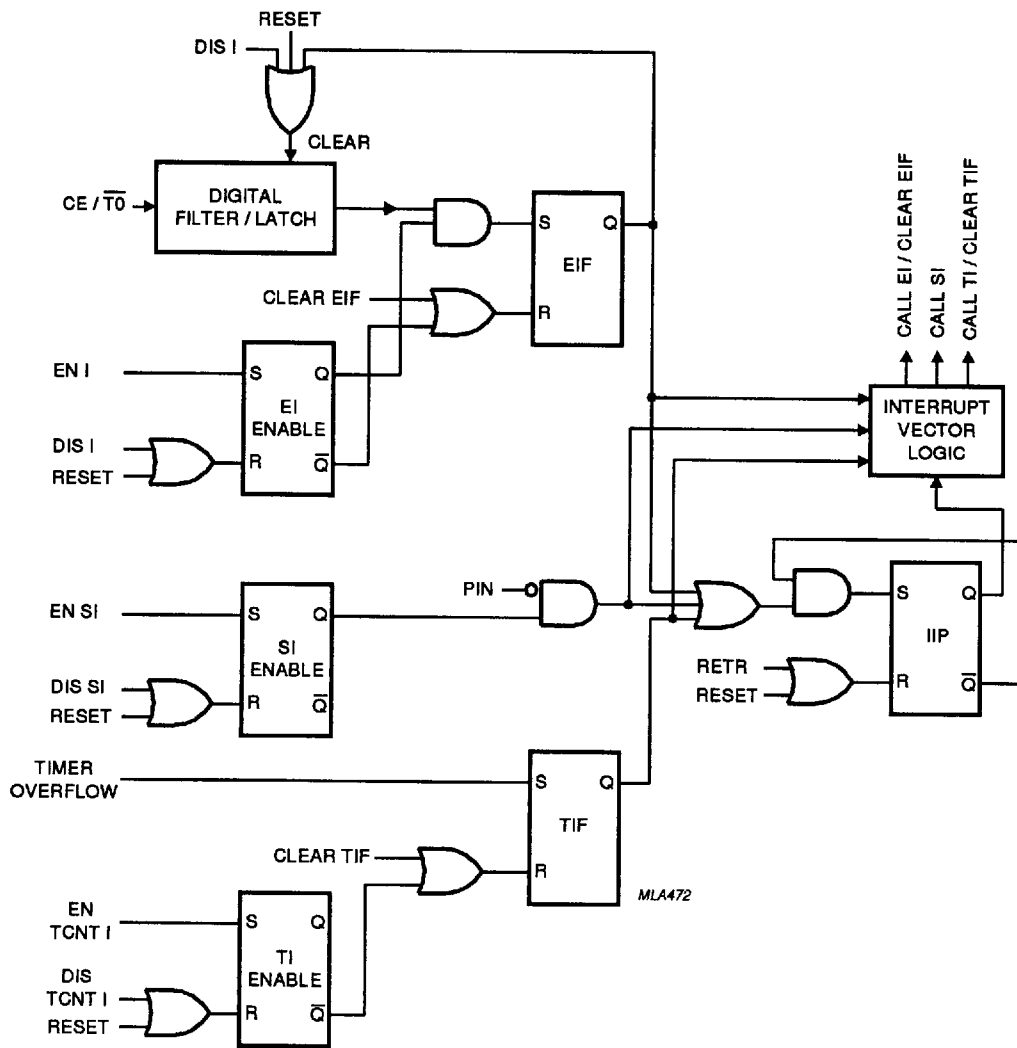

Fig.7 Simplified interrupt logic schematic (the R input overrules the S input for all flags).
An interrupt request is only sensed if the corresponding enable flag is set (see Fig.7). When the request is honoured, the contents of the Program Counter and bits 4, 6 and 7 of the Program Status Word are saved on the Program Counter stack. The Program Counter is loaded with the appropriate interrupt vector, thereby indicating the beginning of the interrupt routine. Since the Accumulator is not automatically saved, it must be saved and restored by user software. The interrupt routine must be terminated by the RETR (return and restore) instruction. At least one instruction of the main program will then be executed before another interrupt routine is entered.
- Subroutines and nested subroutines called from the interrupt routine must all end with RET since RETR clears the Interrupt In Progress flag (IIP), as a side-effect (see Figs 7 and 8). Further pending interrupts would then interfere with the interrupt routine in progress.
A LOW-to-HIGH transition on the $\overline{CE/T0}$ pin is latched in the digital filter/latch if the HIGH state exceeds 7 clock periods after a LOW state of more than 4 clock periods. If the external interrupt is enabled the External Interrupt Flag (EIF) is also asserted, thus constituting a valid external interrupt request. As soon as the IIP is clear, indicating that no interrupt routine is in progress, the external interrupt is invoked by a forced CALL to location 3. The EIF is simultaneously cleared (see Figs 7 and 8). The interrupt routine may acknowledge the interrupt via port lines. Execution of a DIS I (disable external interrupt) instruction cancels a stored interrupt request by clearing both the digital filter/latch and the EIF.
If the timer/event counter interrupt is enabled, a timer/event counter 1 overflow sets the Timer Interrupt Flag (TIF). As soon as IIP is clear, meaning that no interrupt routine is in progress, the timer/event counter interrupt routine is invoked by a forced CALL to program memory location 7. The TIF is simultaneously cleared (see Figs 7 and 8). Execution of a DIS TCNTI (disable timer/event counter interrupt) instruction cancels a stored interrupt request by clearing TIF.